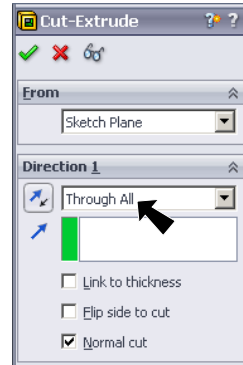

Fig. 11
Step 8. In the Property Manager set End Condition to **Through All** and click OK , **Fig. 11** and **Fig. 12**.